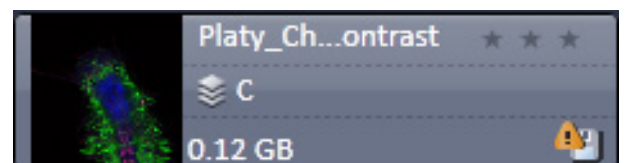

Fig. 278 Image with warning symbol
- In case the image is not saved or has been processed, a warning symbol is displayed on the right side (Fig. 278).